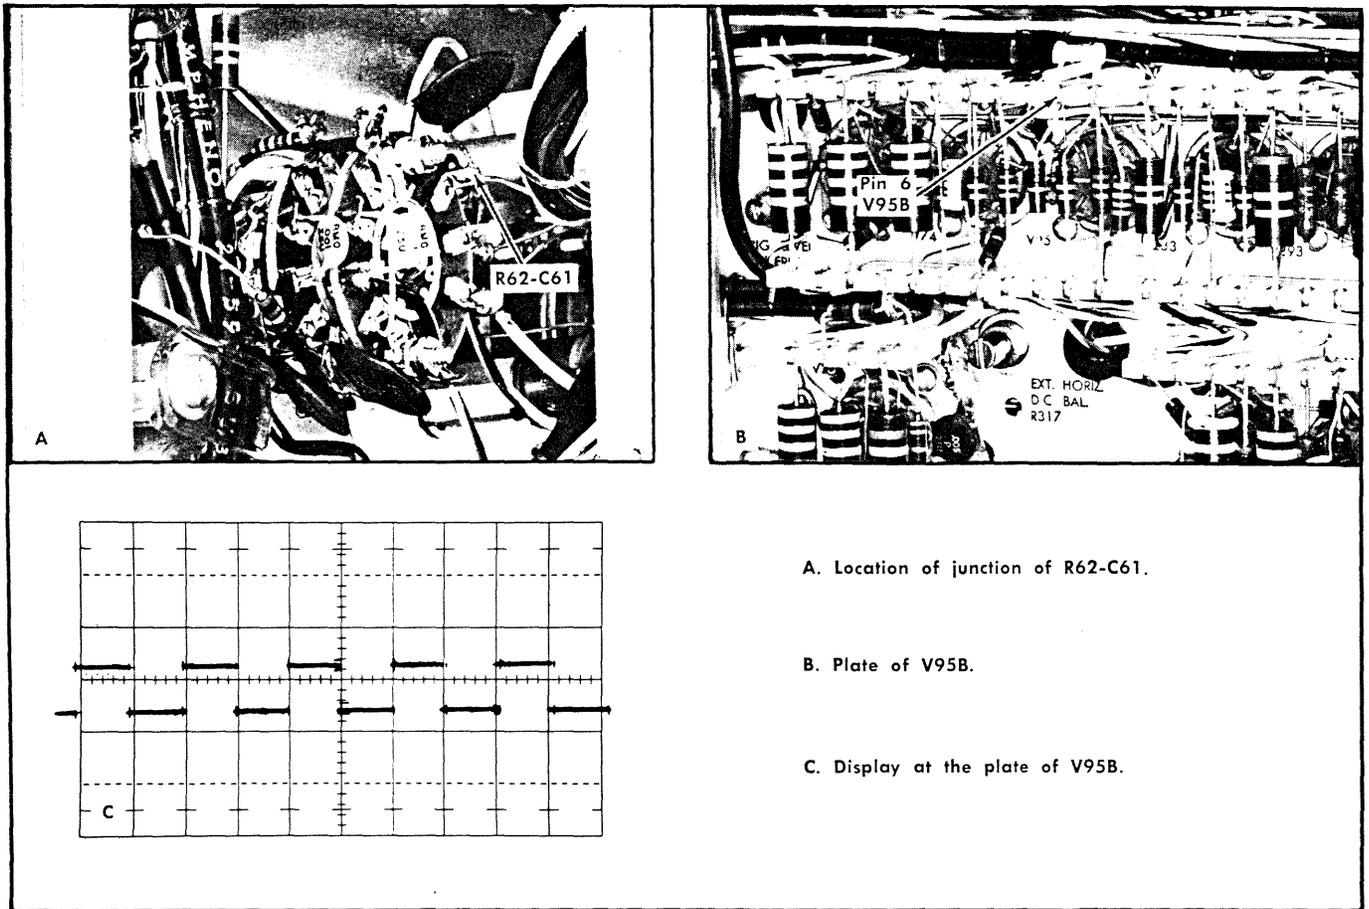

Fig. 6-19. Adjusting B Trigger Level Centering.
- b. Connect a jumper lead between chassis ground and the junction of R62-C61. See Fig. 6-19.
e. Connect the 10× probe from the test oscilloscope to the plate of V95B. See Fig. 6-19.
f. Adjust the Trig Level Centering R78 for a stable square wave display on the test oscilloscope, with the TRIGGER SLOPE switch in either the + or - position (Fig. 6-19).